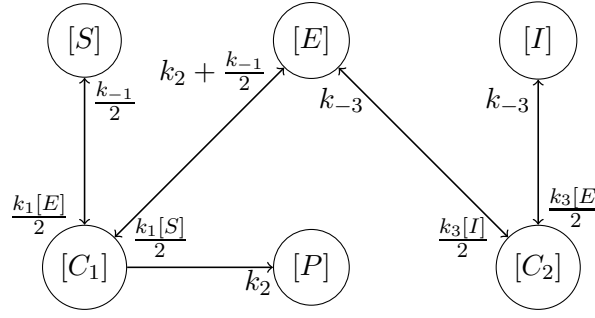

Figure 1.3 Compartment model representation of the enzyme inhibition dynamics.
- 1.4** Draw a graph of the compartment representation, see Fig 1.3. Next, determine the differential equations governing the reaction dynamics: